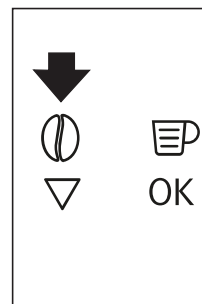

Fig. 15
- ▶ The appliance is preset to make coffee with a normal taste. You can also choose coffee with an extramild, mild, standard, strong or extra-strong taste. There is also a pre-ground coffee option. To choose the required taste, press more times the icon  (B4) (Fig. 15). The required coffee taste is displayed.